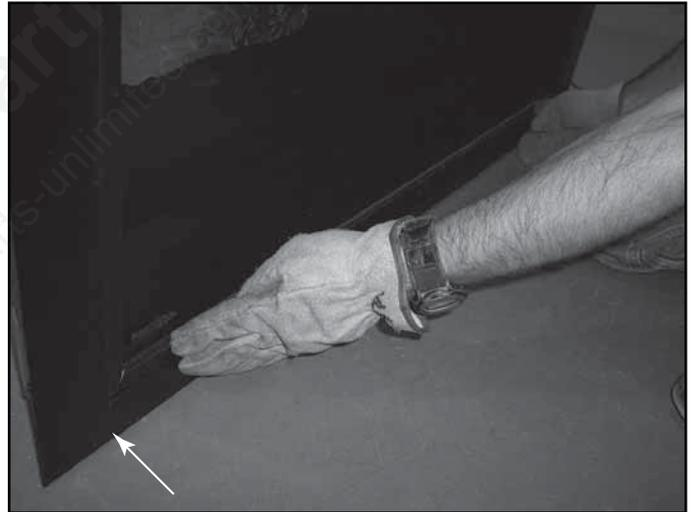

Figure 15.24 Press on Bottom of Screen
- Press in on the bottom of the screen until the magnetic touch latches close. See Figure 15.24.